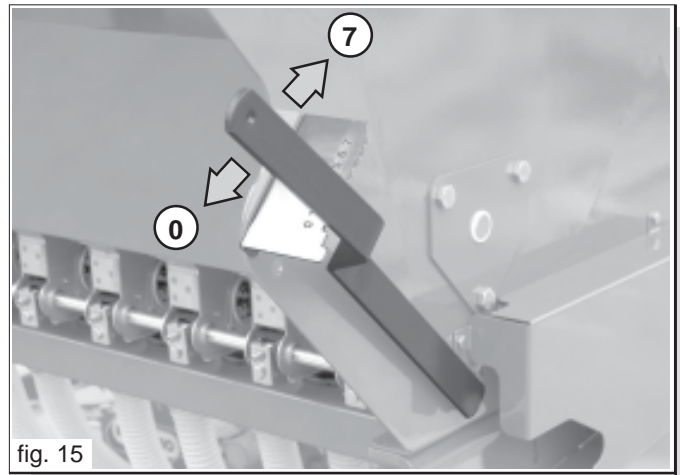

fig. 15
The botton plate adjustment lever (Fig. 15) is positioned on the right side of the machine and works on a scale that is graduated from 1 to 7 positions. This lever must be positioned according to the number given in the seed planting table for the type of seed used. Position the lever of the botton plate (to the right of the hopper) on the 7-position pointer (Fig. 15):
- 1) position the lever (Fig. 15) on reference «0»;